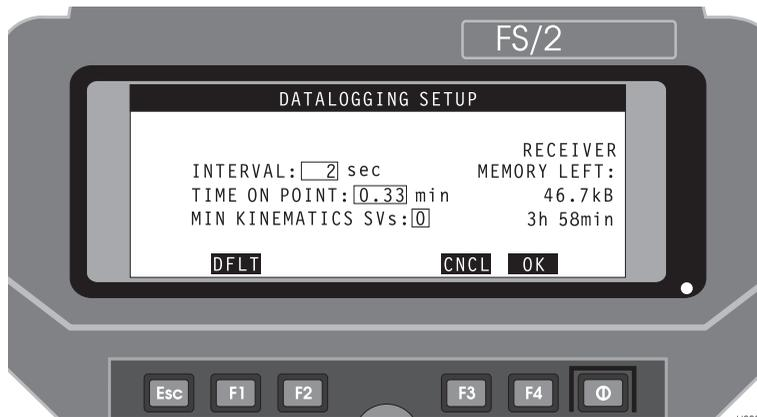

Figure 3.10: Datalogging Setup Screen
2. Press **F3 (LGST)** to call the Datalogging Setup screen, Figure 3.10.